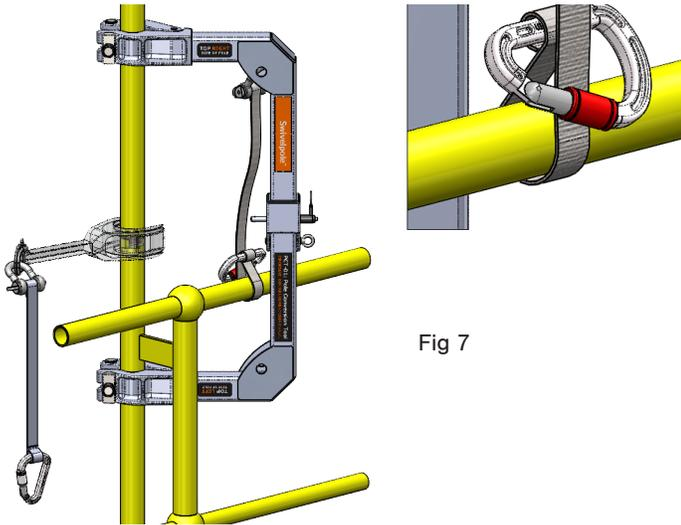

Fig 7
- Second person attaches the lanyard to the guardrail and securely fastens the safety latch. (Fig 7)